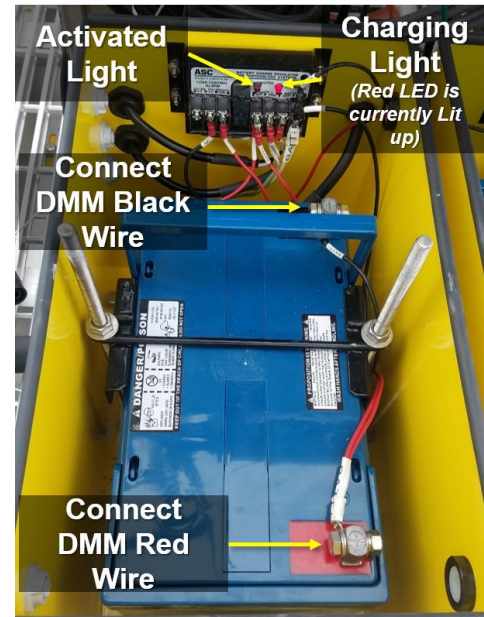

Figure 17. AIS Buoy Battery Box/Enclosure and Battery (Where to Connect DMM)
- b. Use a Digital Multi-Meter (DMM) to check voltage (see Figure 17).
- c. The charging light on the charge controller(s) illuminates at least some of the time (it will turn off when the battery is fully charged). Figure 17 displays the charging light lit up, which means the battery is charging.
- d. The Activated light is off (A lit up Activated light means the battery is low and the buoy electronics are off). Figure 17 displays the location of the Activated light.